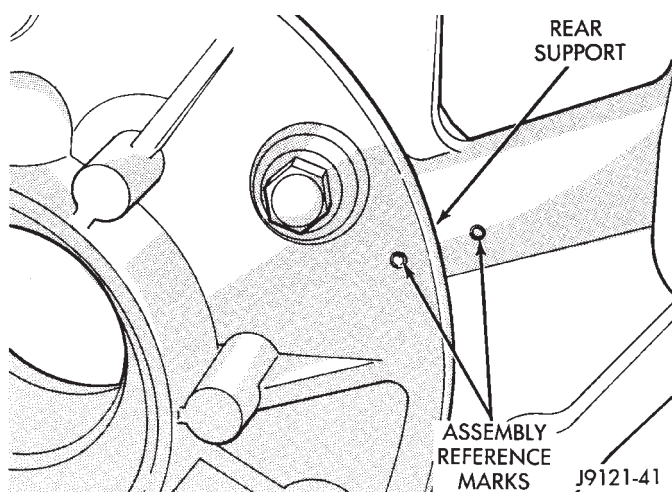

Fig. 25 Marking Rear Support For Assembly Reference
(37) Remove rear band lever, link and strut.
(38) Mark position of rear support for assembly reference (Fig. 25). Use scribe or center punch to mark case and support.